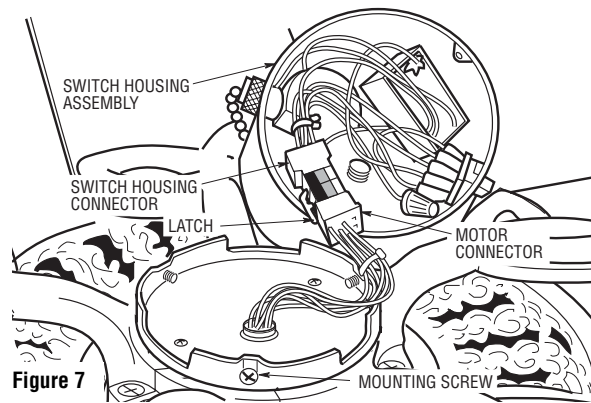
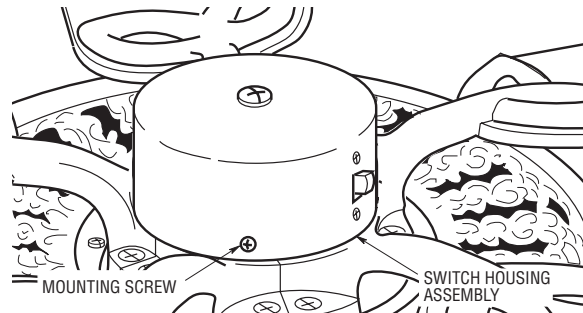

Figure 7
Figure 8
- 12. Engage the connector of the switch housing assembly with the motor connector (Figure 7). The two connectors are keyed and color-coded and must be mated correctly (color-to-color) before they can be engaged. Make sure the connector latch closes properly.
- 13. Remove the three mounting screws from the switch housing plate (Figure 7). Position the switch housing assembly on the switch housing plate and secure using the three mounting screws (Figure 8).